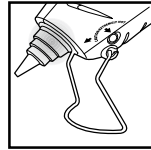

Fig.6.2
2. Tip will start to glow red. (Fig. 6.2)